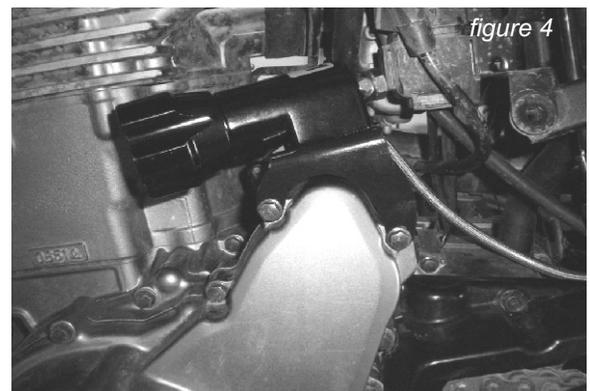

figure 4
- Mount the adjuster to the supplied mounting bracket using the supplied M6-1.0X8mm SHCS fasteners and torque them to 80-90 in/lbs (9-10 N-m). Then mount the bracket to the bike using the top two engine side cover mounting bolts - (as shown in figure 4). Using the supplied zip-ties, secure the hydraulic line away from any moving parts or heat sources.